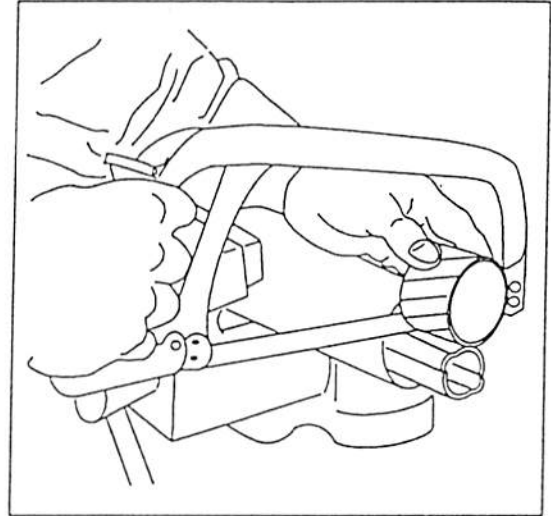

Fig.6.
- Cut a piece from profile tube which is as long as the piece you cut off from the shield. Shorten the other PTO shaft by the same length. After cutting file sharp edges. See fig.6.—7.